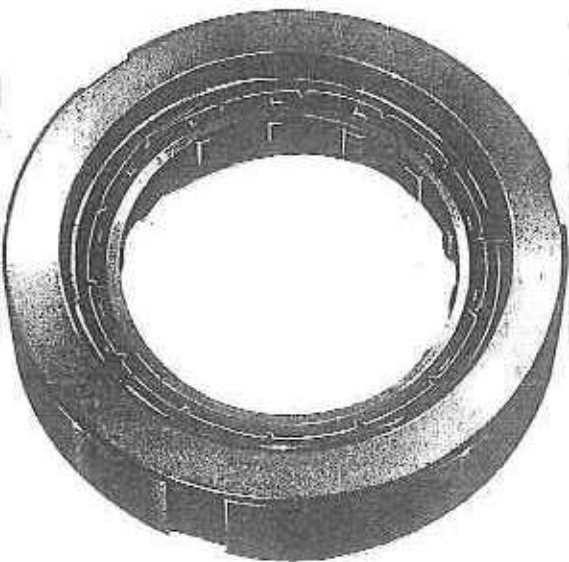

FIG 9
4. (Fig. 9) Insert the outer race into the clutch ring.